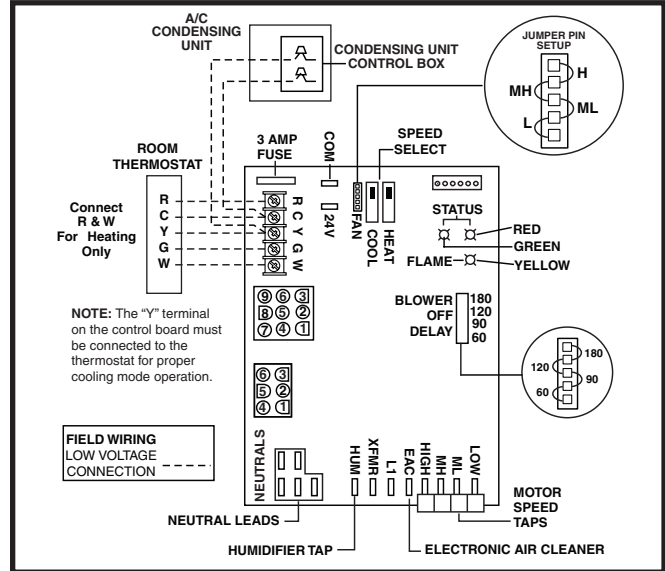

Figure 26. Nordyne/UTEC Low Voltage Field, Four-wire Heating/Cooling Applications
- The thermostat must be installed according to the instructions supplied by the thermostat manufacturer. Low voltage connections (24 VAC) from the thermostat are wired to the terminal strip on the integrated control in the furnace. Figure 26 contains the proper connections for heating only (two-wire) and heating/cooling (four-wire) applications. Recommended minimum wire gauge for thermostat wiring is shown in Table 5 (page 23).
- √ Verify the jumper on the Nordyne/UTEC board or dipswitch on the Emerson board (for fan speed) on the control board. To select fan speed, see Figure 26 and set the jumper on the control board.